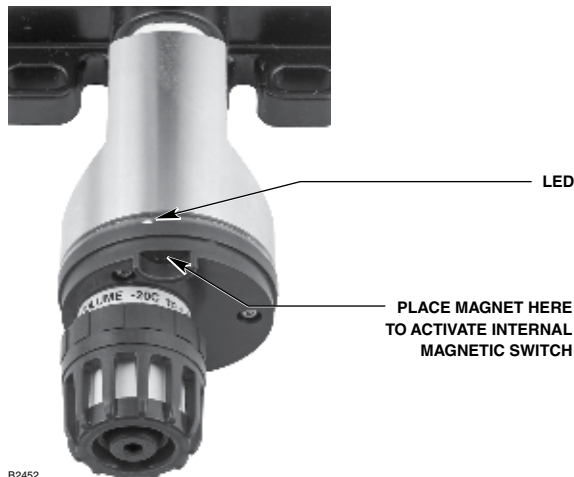

Figure 13—Location of Magnetic Switch on GT3000 Detector
2. Initiate calibration by momentarily holding the calibration magnet against the designated location on the sensor module (see Figure 13) until the green LED turns off and the yellow LED turns on steady (approximately one second). Remove the magnet when the green LED turns off. The detector immediately begins taking zero readings. Calibration can also be initiated via HART interface (see Appendix F) or the UD10 (see manual number 95-8618).